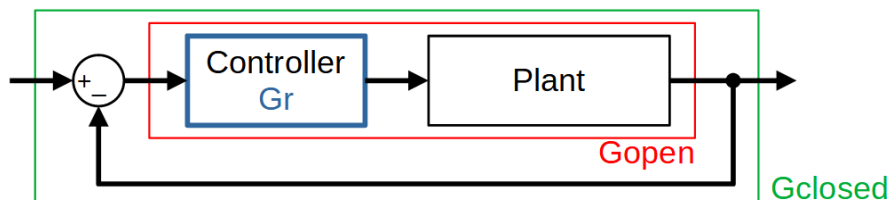

Figure 39: Signal colors according to transfer functions in the control loop.
- ♦ **Bode:** The amplitude response and the phase response of the axis are plotted. The signal colors match to transfer functions as following (see also Figure 39).